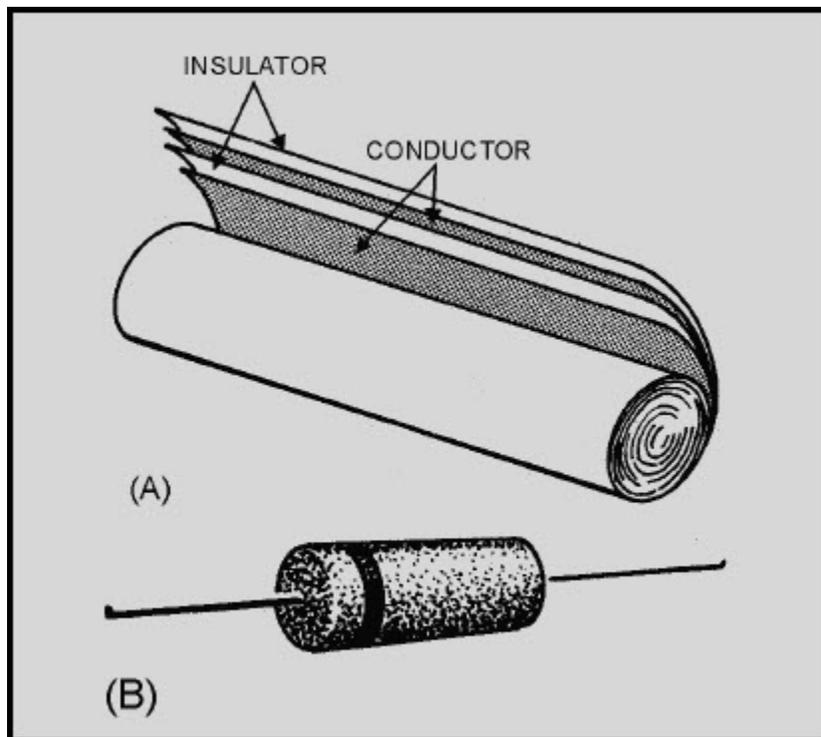

Figure 3-15 Paper capacitor
Many different kinds of outer covering are used on paper capacitors, the simplest being a tubular cardboard covering. Some types of paper capacitors are encased in very hard plastic. These types are very rugged and can be used over a much wider temperature range than can the tubular cardboard type. Figure 3-15(A) shows the construction of a tubular paper capacitor; part 3-15(B) shows a completed cardboard encased capacitor.